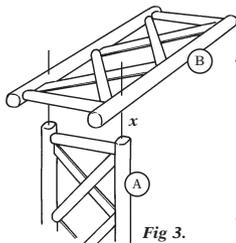
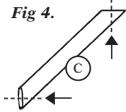

Fig 3.
Fig 4.
4. Lie the roof assembly on its edge. Take one of the Side Sections (A), and using the pre-drilled holes in the roof assembly, fix them together using screws (x) as Fig.3.
6. The roof and side sections assembly now requires the Support Struts (C) to be fitted.
7. Pre-drill the support struts to make fitting easier as Fig.4.